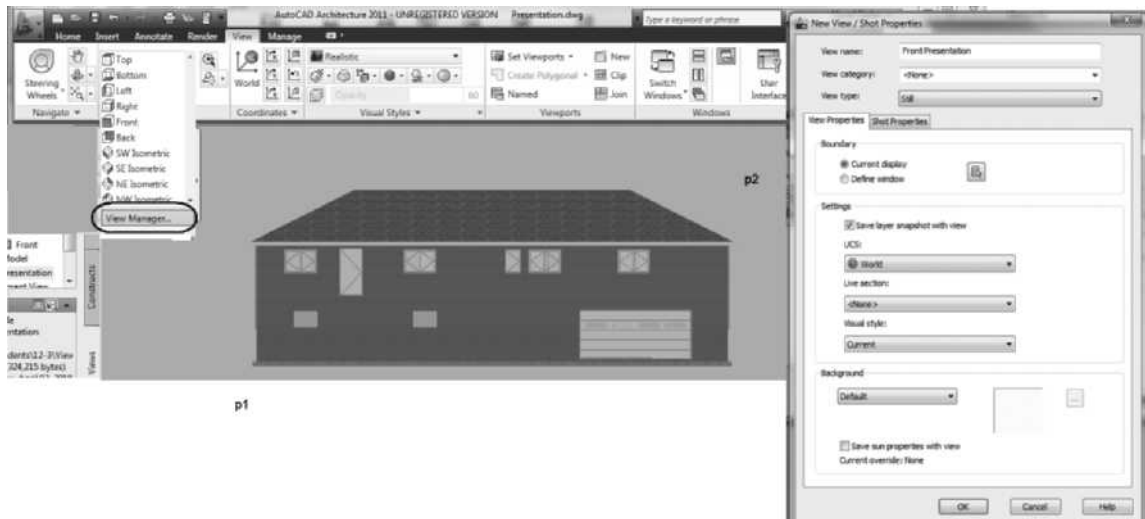

FIGURE 12.90 *Placing a View on a Sheet*
34. Choose the View tab. Choose the View Manager from the flyout View menu of the Appearance panel to open the View Manager. Click the New button to open the **New View/Shot Properties** dialog box. Edit the New View/Shot Properties as follows: View name = **Front Presentation**. Choose **Define view window** and choose a window from points **p1** to **p2** as shown in Figure 12.90. Press ENTER to end window specification. Check **Save layer snapshot with view** checkbox. Set UCS = World and Visual Style = **Current**. Click **OK** to dismiss all dialog boxes.